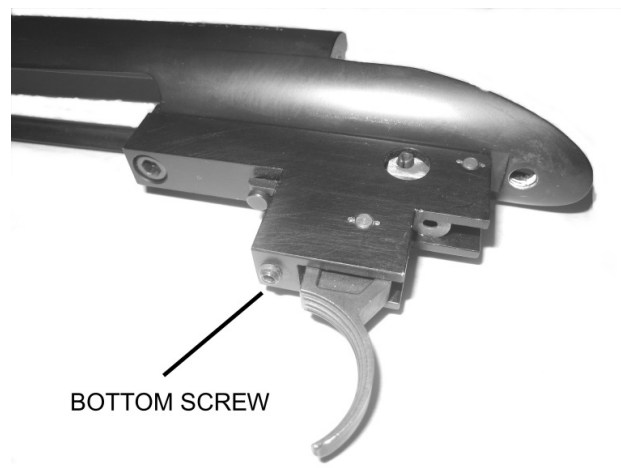

Fig. 9
3. To increase weight of the trigger pull, with a 5/64" Allen wrench turn the bottom adjusting screw clockwise until desired weight of trigger pull is established. To decrease weight of trigger pull turn the bottom adjusting screw counter-clockwise until desired weight of trigger pull is established (*refer to fig. 9*)